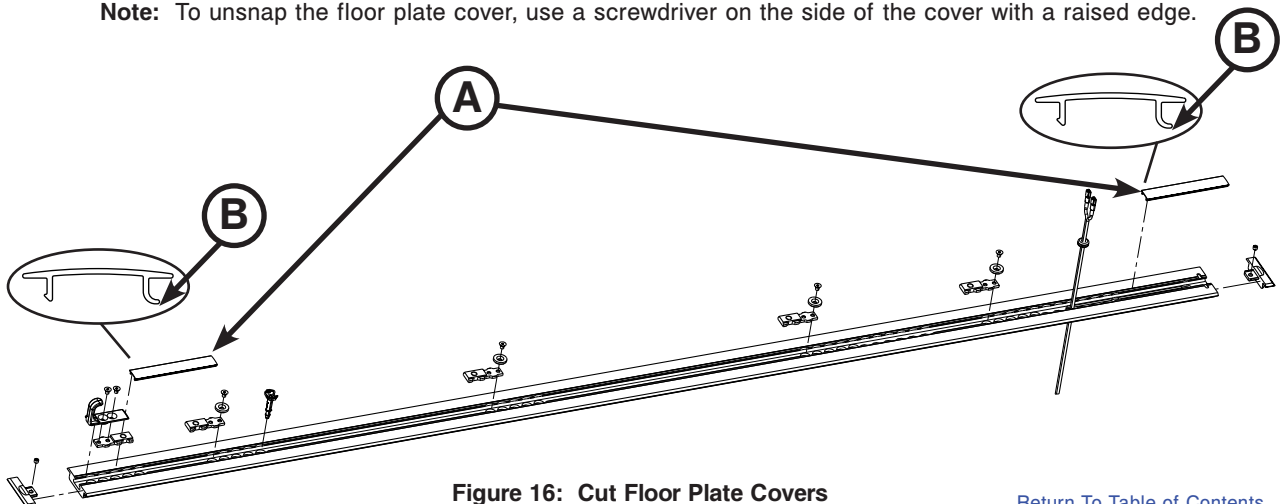

Figure 16: Cut Floor Plate Covers
38. Using a saw, cut the two floor plate covers (6390-001-166) (A) to fit the measured length on both ends (Figure 16). The floor plate cover does not fit over the floor plate attachment bracket.
39. Using a rubber hammer, snap each floor plate cover into the floor plate (hook side (B) first).